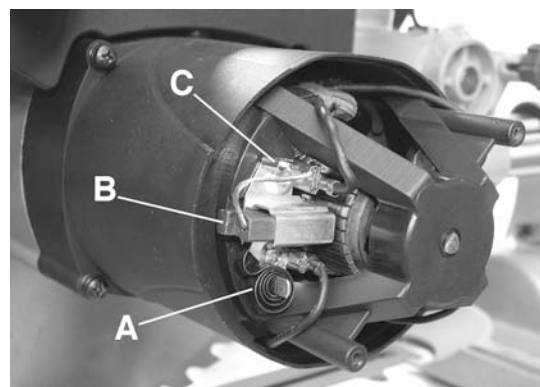
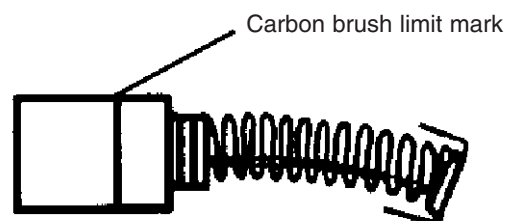

Figure 23
Figure 24
Once the motor housing cap is removed, to release the carbon brush (B) Fig.23 from the holder, lower the retaining spring (A). Disconnect the carbon brush wire (C) from the terminal, remove the carbon brush from the motor housing and inspect it. Repeat this step for the second carbon brush. Carbon brushes need to be replaced once they wear down to the limit mark, see Fig.24. Keep the carbon brushes clean and free to slip in the holders.